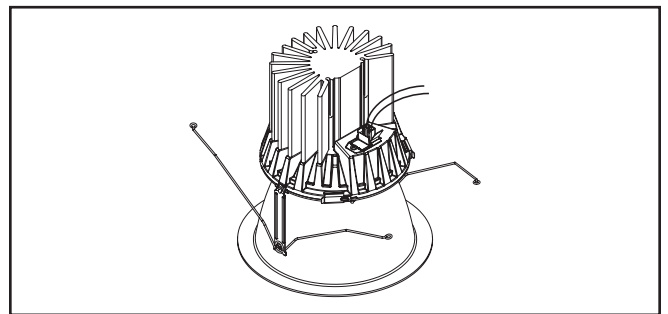

Figure 8.
4. Plug in the luminaire quick disconnect on the module (Figure 8).